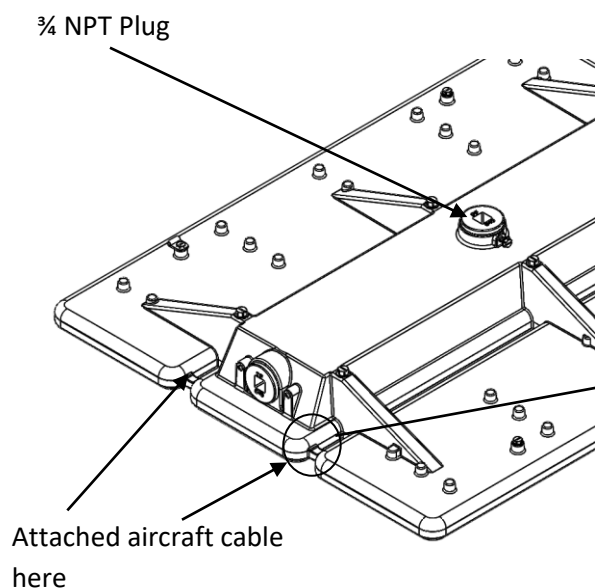

Figure C.1: Suspended Mounting Option
- 1) If using the IBAC120 M100 or IBAC240 M75, hook the latch around the suspended mounting feature on driver channel housing as shown in figure C.1, C.2, and C.3 (inverted mounting options connects the same way as suspended) below.